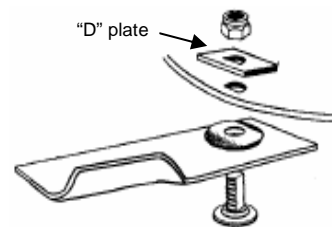

Figure 10. Blade Attachments
- Rotate the cutting assembly carefully to access the blade retaining bolts. Refer to figure 10.
NB. Mowers fitted with a circular cutting disc must be fitted with a "D" Plate (as shown in figure 10). These parts are available from any **Rover Mowers** authorized service dealer or agent.
- Fit new blades and fasten in the correct order. Refer to figure 10.